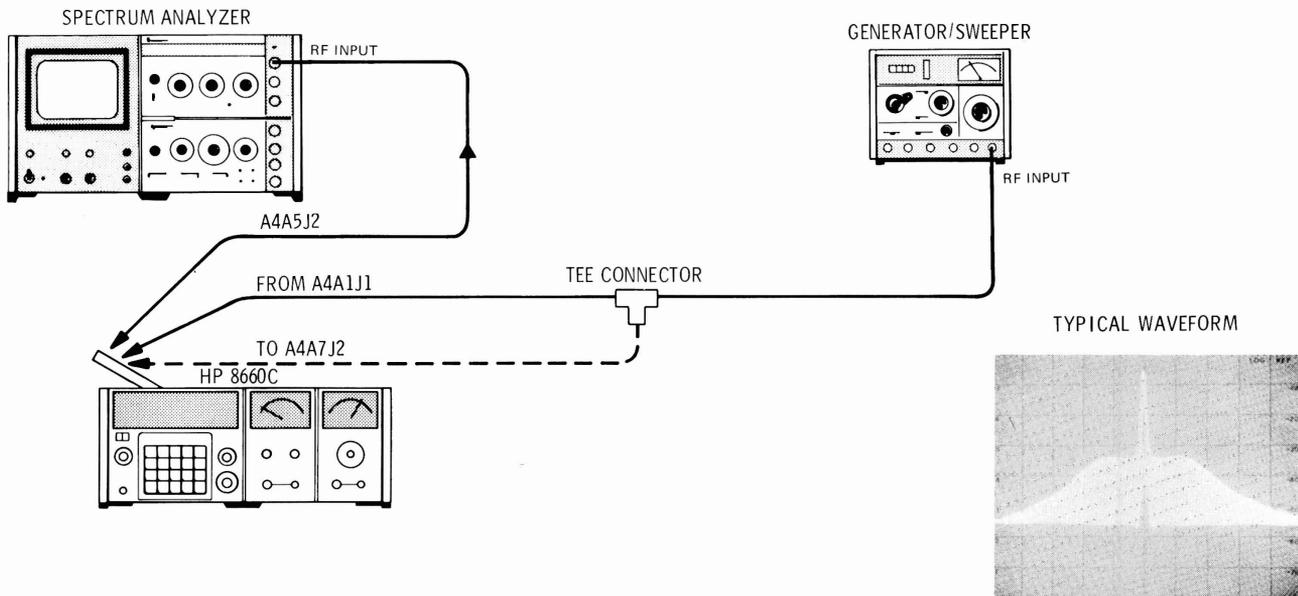

Figure 5-9. Loop Gain Adjustment Test Setup
4. Loop Gain Adjustment (see Figure 5-9).
c. Set the Signal Generator/Sweeper to 11.5 MHz CW at -35 dBm and symmetrical sweep width to 3 MHz. The analyzer display should be approximately as shown in the typical waveform shown in Figure 5-9. Adjust the A4A6 GAIN control (A4A6R2) for the response shown.